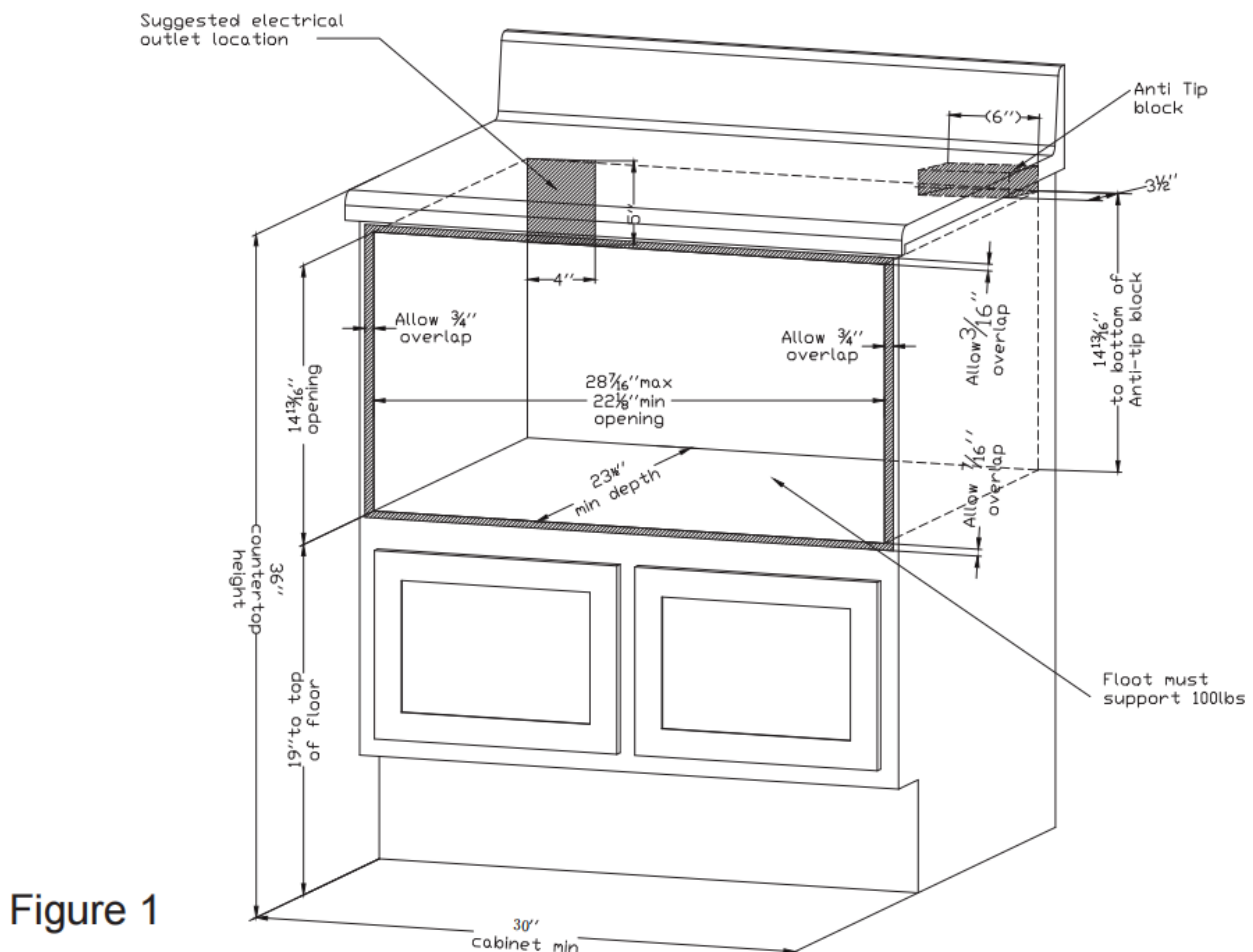

Figure 1
- Dimensions that are shown in Figure 1 must be used. Given dimensions provide minimum clearance. Locate electrical outlet in the shaded area in the upper left-hand corner of the cutout
Figures 1 and 2 contain many Microwave Drawer measurements for reference when planning the drawer's location. This Microwave Drawer can be installed below any electric or gas wall oven. *Can also be installed using an electrical outlet in an adjacent cabinet within the area where tire provided electrical cord can reach. Power cord access hole in cabinet should be a minimum 1 1/2" diameter hole and debarred of all sharp edges.
To reduce the risk of tipping of the drawer, the Anti-Tip block must be properly installed located 14 inches above the floor on which the Microwave Drawer will sit. The 6-inch Anti-Tip block must be provided by the installer. See Figures 1 and 3. The Anti-Tip block prevents serious injury that might result from spilled hot liquids. If the Microwave Drawer is ever moved to a different location, the Anti-Tip block must also be moved and installed. When installed to the wall make sure that the screws completely penetrate the dry wall and are secured in wood or metal so that the block is totally stable. When fastening, be sure that the screws do not penetrate electrical wiring or plumbing. The electrical requirements are a 120 volt 60 Hz, AC only, 15 amp. or more protected electrical supply. It is recommended that a separate circuit serving only this appliance be provided. The drawer is equipped with a 3-prong grounding plug, It must be plugged into a wall receptacle that is properly installed and grounded. Should you only have 2-prong outlet, have a qualified electrician install a correct wall receptacle.